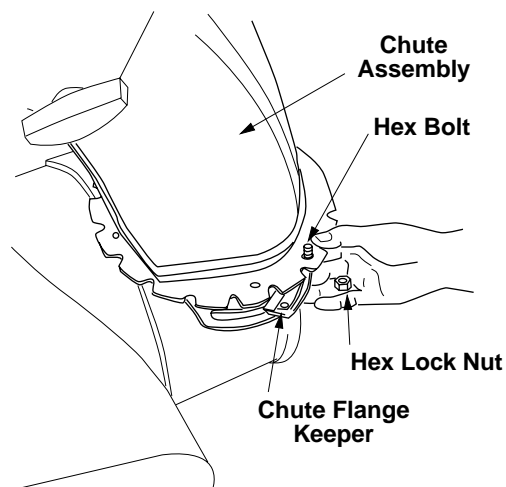

Figure 14
3. Insert hex bolt up through chute flange keeper and chute assembly as shown in Figure 14. Secure with hex lock nut.